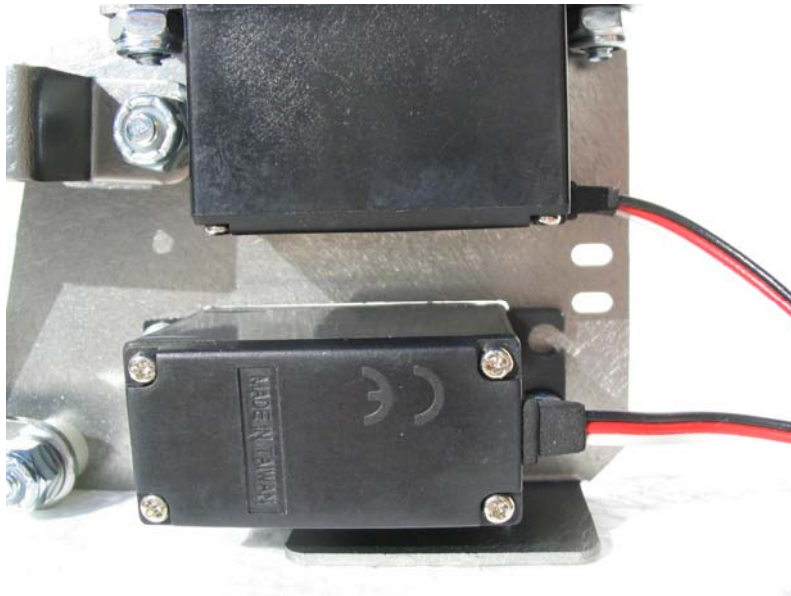
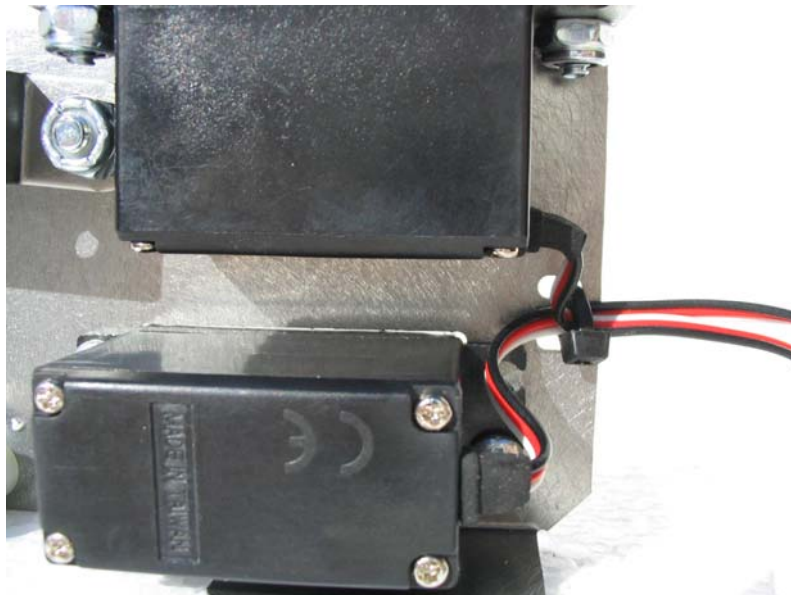

Figure 25 – Securing the servo wires to the servo mount
Figure 26 – The completed assembly
13. Using the supplied black tie wraps, secure the 2 servo wires to the servo mount as shown in Figure 25 and Figure 26. Be sure not to stretch or extend the servo wire when securing them to the servo mount.